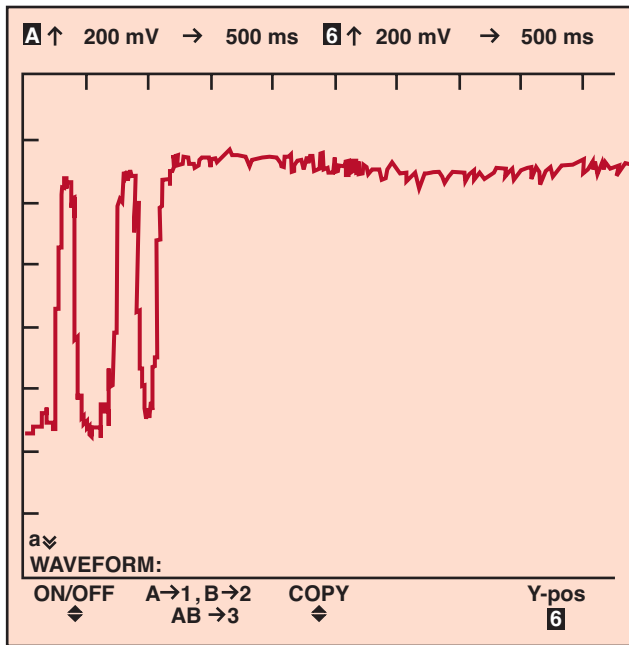

FIGURE 17-15 Adding propane to the air inlet of an engine operating in closed loop with a working oxygen sensor causes the oxygen sensor voltage to read high.
3. While watching the scope display, add some propane to the air inlet. The scope display should read full rich (over 800 mV), as shown in **FIGURE 17-15**.